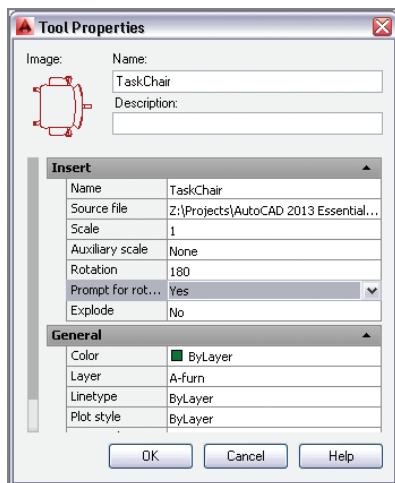

FIGURE 9.22 Adjusting tool properties to prompt for rotation
6. Right-click the TaskChair tool in the Furniture palette, and choose Properties from the context menu. Change Prompt For Rotation to Yes in the Tool Properties dialog box that appears (see Figure 9.22). Click OK.